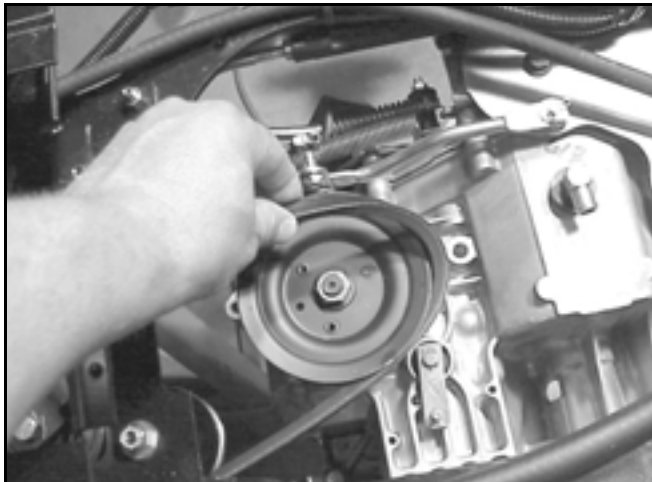

Figure 125
10. Slip the belt off the transaxle input pulley (Figure 125).